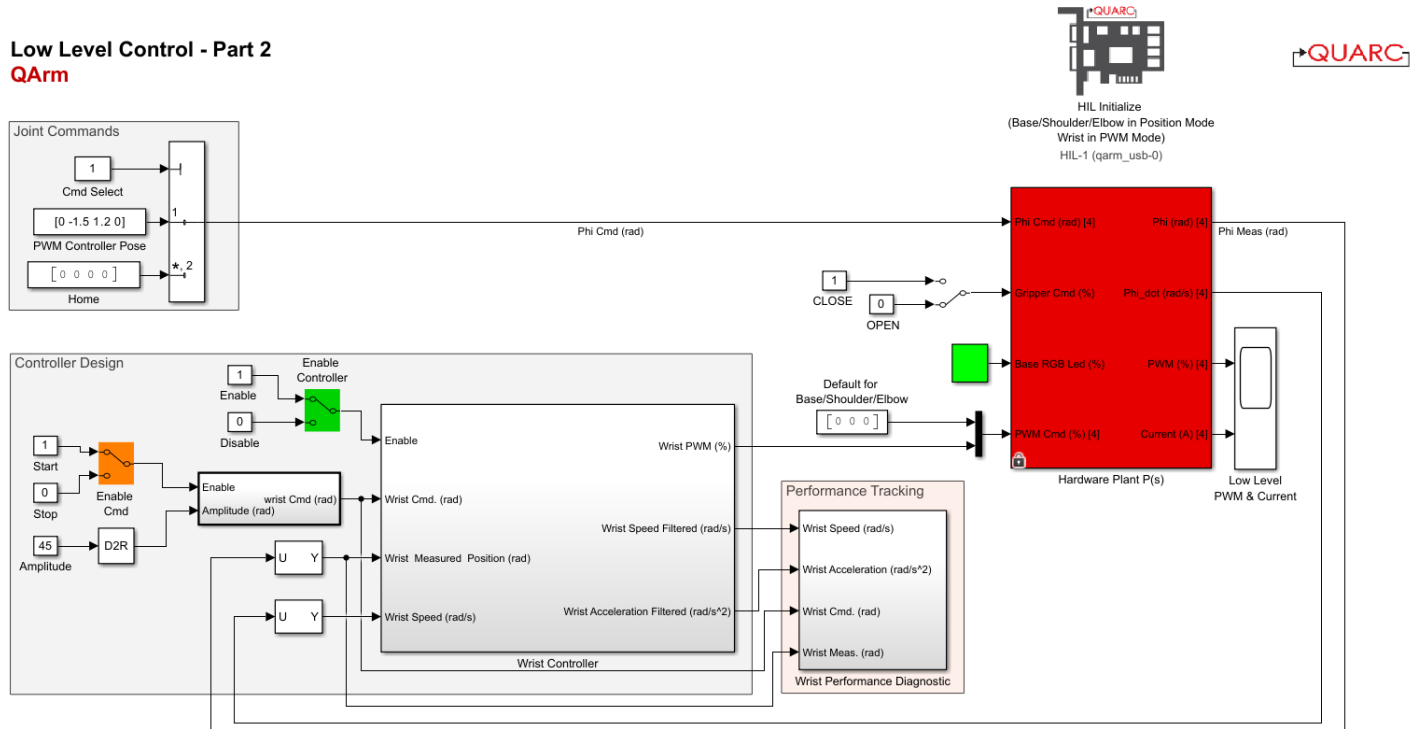

Figure 4: Simulink model that controls the QArm in hybrid Position/PWM Mode.
1. Open the Simulink model LowLevelControlWristPWM.slx (Figure 4). In this part of the lab you will tune the proportional and derivative (PD) terms of the Wrist controller to examine their effect on performance characteristics mentioned in the Concept Review.